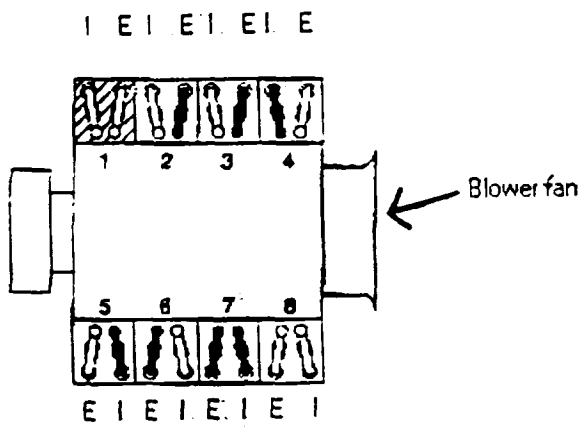
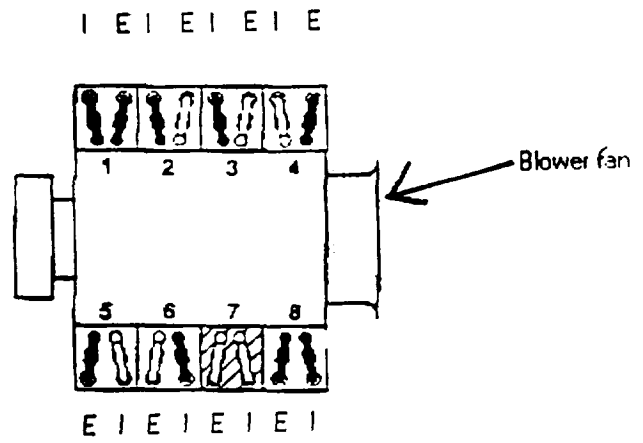
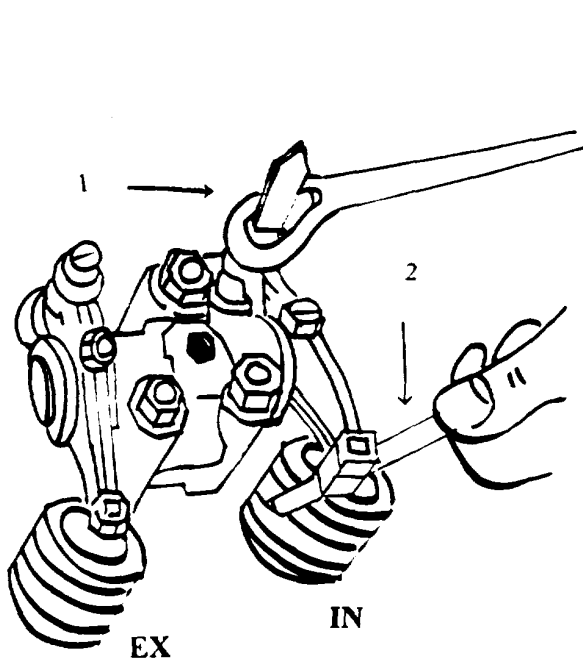
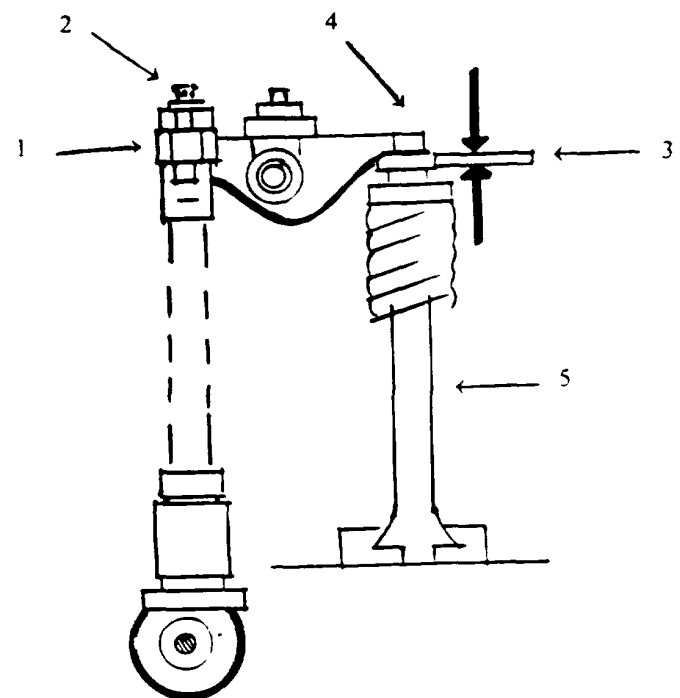

Figure 5-57
Figure 5-58
Figure 5-59
Figure 5-60
2. Check valve clearance for valves marked in black (fig 5-57), using a feeler gauge (2, fig 5-59). Gauge should just slide into gap (3, fig 5-60) between rocker arm lug (4) and valve (5):
- Intake valve (I) 0.2 mm
- Exhaust valve (E) 0.3mm
3. If gap is too small or too large. loosen locknut (1, fig 5-60) one or two turns and turn adjusting screw and turn adjusting screw (2) with a screwdriver (1, fig 5-59); once locknut is tightened gauge should slip out with little resistance.
5. Check valve clearance for valves marked in black (fig 5-58), using a feeler gauge (2, fig 5-59). Gauge should just slide into gap (3, fig 5-60) between rocker arm lug (4) and valve (5):
6. If gap is too small or too large, loosen locknut (1, fig 5-60) one or two turns and turn adjusting screw and turn adjusting screw (2) with a screwdriver (1, fig 5-59); once locknut is tightened gauge should slip out with little resistance.